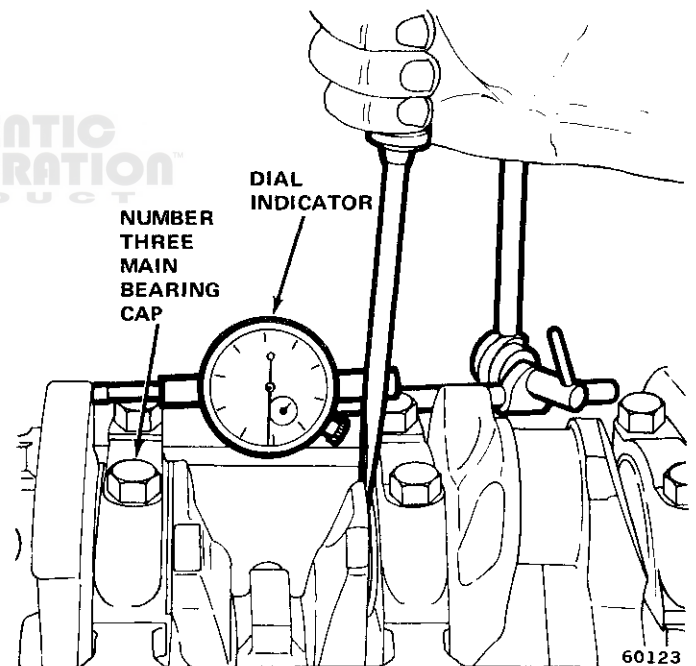

Fig. 1B-50 Measuring Crankshaft End Play
(1) Attach dial indicator to cylinder block adjacent to No. 3 main bearing (fig. 1B-50).
(2) Pry shaft forward with flat-bladed screwdriver, set dial indicator, push rod on face of crankshaft counterweight and set to zero.
(3) Pry shaft fore and aft. Read dial indicator. The end play is the difference between the high and low readings. The correct crankshaft end play is 0.0015 to 0.0065 inch (0.002 to 0.0025 desired) [0.038 to 0.165 mm (0.051 to 0.064 mm desired)].